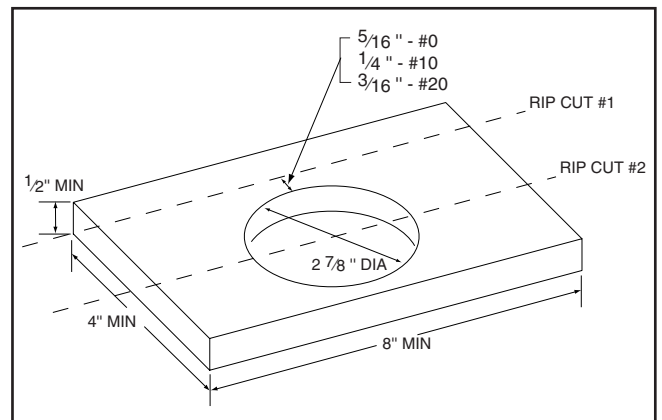

Figure 2. Laying out guide runner.
1. Start with a solid piece of wood measuring approximately 8" long by 4" wide, approximately 1" thick. This piece will become the guide runner which will locate against the edge of the workpiece. With a compass or circle template, draw a circle with a 2 7/8" diameter at the edge of the board, centered along its length (See Figure 2). Use a hole saw, band saw or jig saw to cut out the circle. Don't
2. Determine which biscuit size you plan to use with the fixture. Measure the appropriate distance as indicated in Figure 2 from the edge of the circle, and draw a line. Rip the length of the piece along that line.